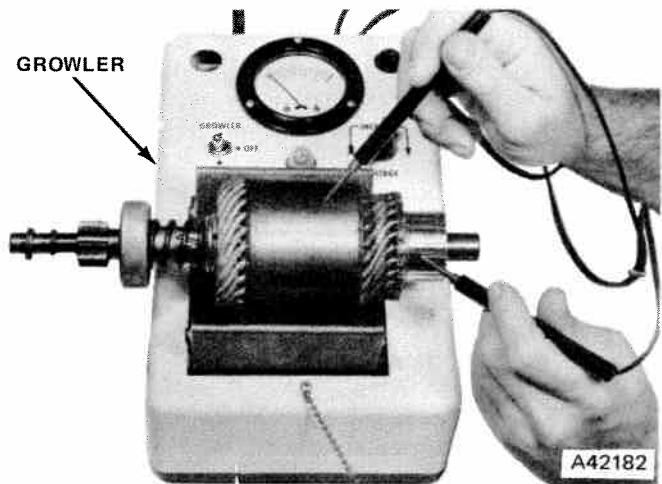

Fig. 3-46 Armature Ground Test
(1) Place armature in growler jaws.
(2) Turn power switch to test position.
(3) Touch one test lead to armature core and other lead to each commutator bar one at a time and observe the test light. Test light should not glow. If test light glows on any bar, armature is grounded and must be replaced (fig. 3-46).